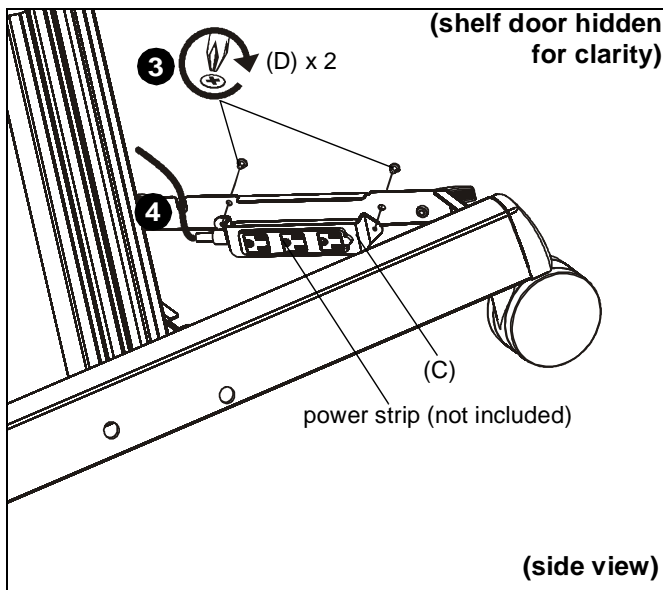

Figure 5
1. Install power strip (sold separately) to power strip clamp (C).
2. Open shelf door (F).
3. Use two #10-24 x 1/4" Phillips pan machine screws (D) to secure power strip clamp (C) to shelf (A). (See Figure 5)
4. Route power strip cable through opening on shelf. (See Figure 5)